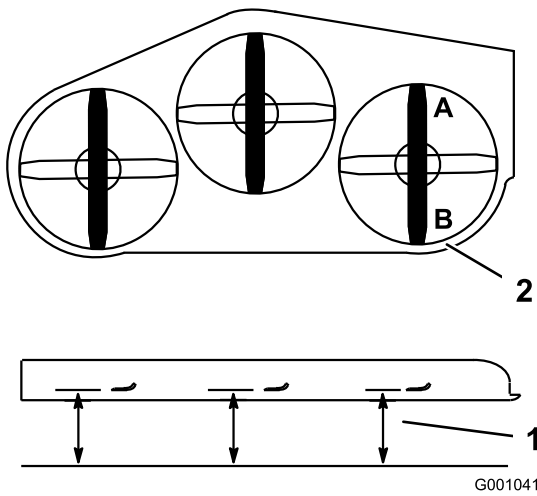

Figure 99
1. Position the **right** blade front-to-rear (Figure 99).
2. Measure the right blade at the **A** location, from a level surface to the cutting edge of the blade tip (Figure 99).
4. Measure the right blade at the **B** location, from a level surface to the cutting edge of the blade tip (Figure 99).
6. The mower blade should be 6 to 10 mm (1/4 to 3/8 inch) lower at position **A** than at position **B** (Figure 99). If it is not correct, proceed to the following steps.